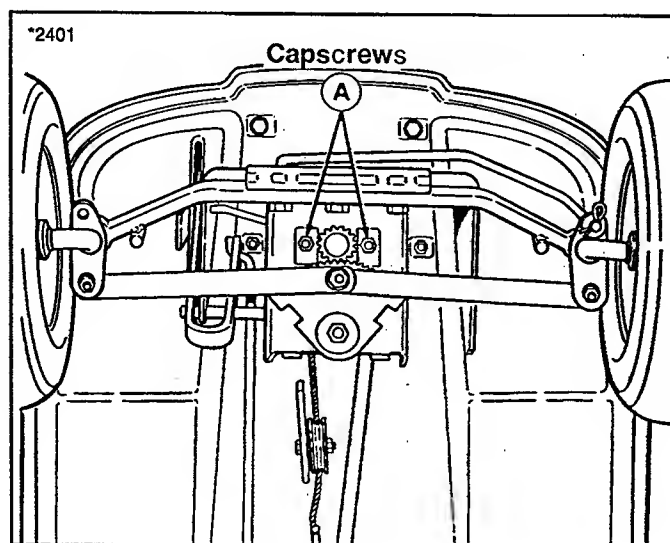

Figure 30. Steering Gear Adjustment
1. See figure 30. Loosen the two capscrews and push bracket so that gear teeth are closely meshed.